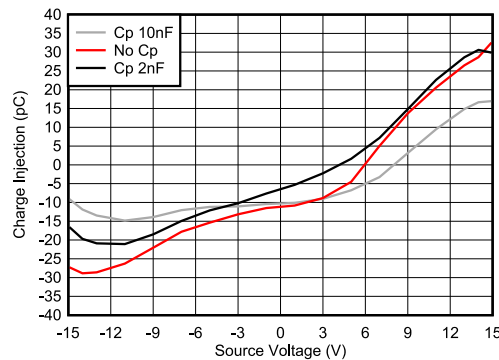

Figure 8-3. Charge Injection Compensation
The TMUX6219-Q1 contains specialized architecture to reduce charge injection on the source (S_x). To further reduce charge injection in a sensitive application, a compensation capacitor (C_p) can be added on the drain (D). This will ensure that excess charge from the switch transition will be pushed into the compensation capacitor on the drain (D) instead of the source (S_x). As a general rule of thumb, C_p should be 20× larger than the equivalent load capacitance on the source (S_x). Figure 8-3 shows charge injection variation with source voltage with different compensation capacitors on the Drain side.